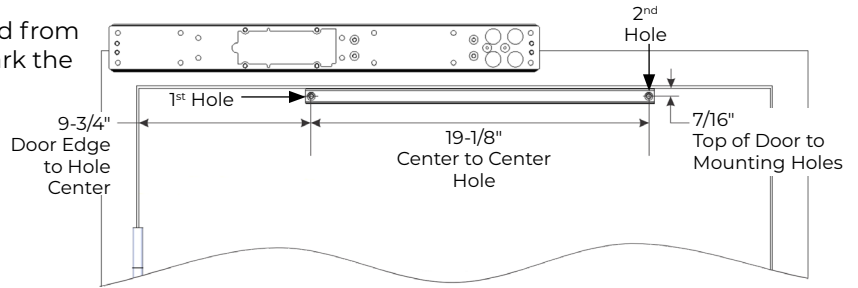

Figure 4
1. Using the template (available for download from www.nortonrixson.com), measure and mark the first track mounting hole. (Figure 4)